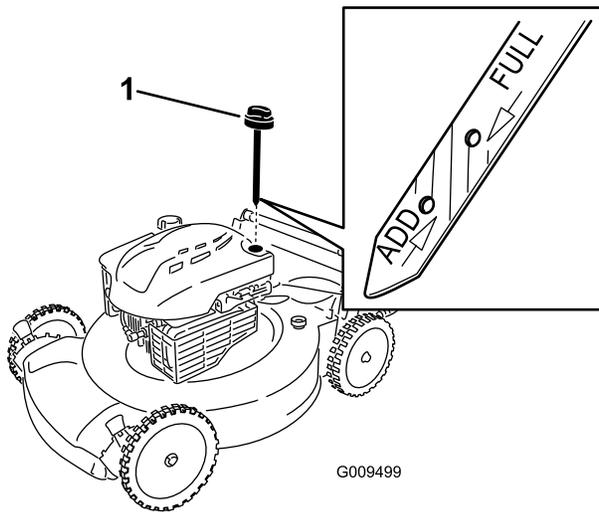

Figure 11
2. Remove the dipstick, wipe it clean, and fully install the dipstick (Figure 11).
3. Remove the dipstick and check the oil level (Figure 11). If the oil level is below the **Add** mark on the dipstick, slowly pour oil into the oil fill tube to raise the oil level to the **Full** mark on the dipstick. **Do not overfill.**